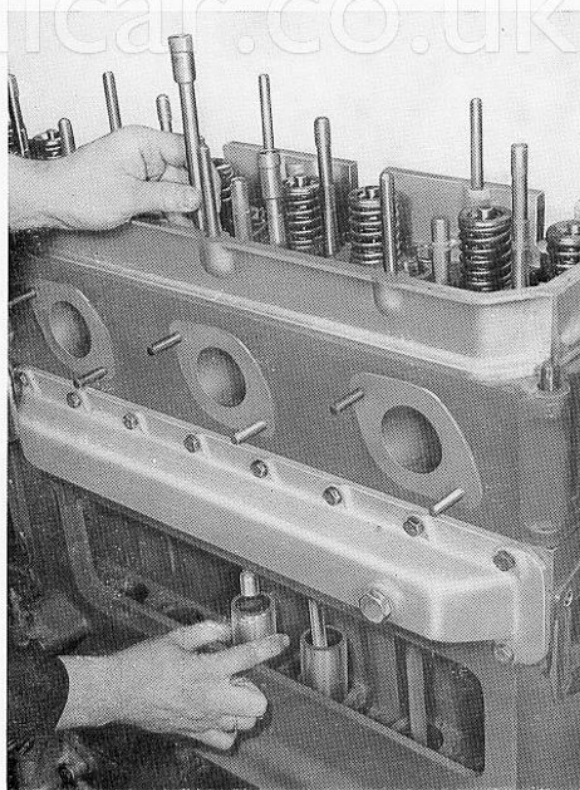

FIG. 6. REMOVING PUSH RODS AND CAM FOLLOWERS
The cam follower plungers are accessible on detaching the two side covers on the engine block, and can be slipped out for inspection after removing the valve rocker gear assemblies (Fig. 6).
4. Remove the two cover plates on the side of the engine block and withdraw all the cam plunger followers (Fig. 6).